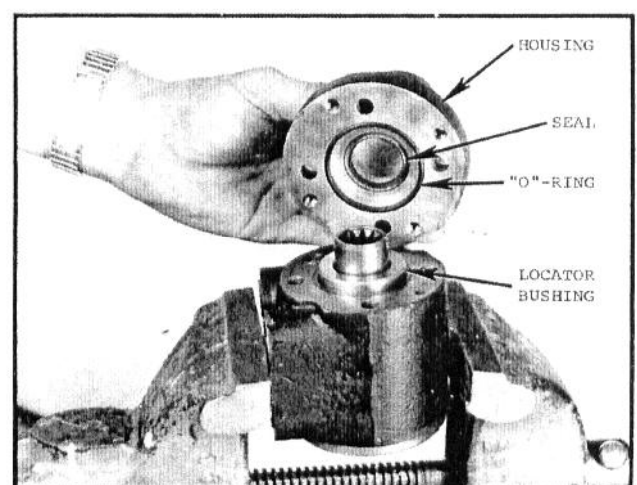

FIG. 16 — REMOVING SHAFT HOUSING
4. Remove capscrews and remove housing as shown in Fig. 16. Remove and discard "O"-
15. Reposition pump in vise and install new locator bushing, "O"-ring and seal as shown in Fig. 16. Insure that large O.D. chamfer in bushing is next to input shaft housing.